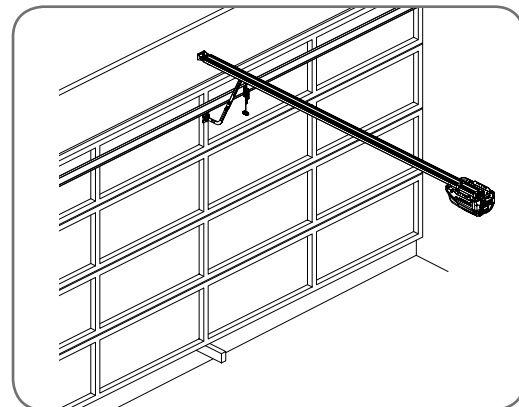

Fig. 29
- Place a piece of timber approximately 40mm high on the floor directly under the door (Fig. 29) or when testing the opener one could use the box the opener comes in which is a good test to reverse off the cardboard box.